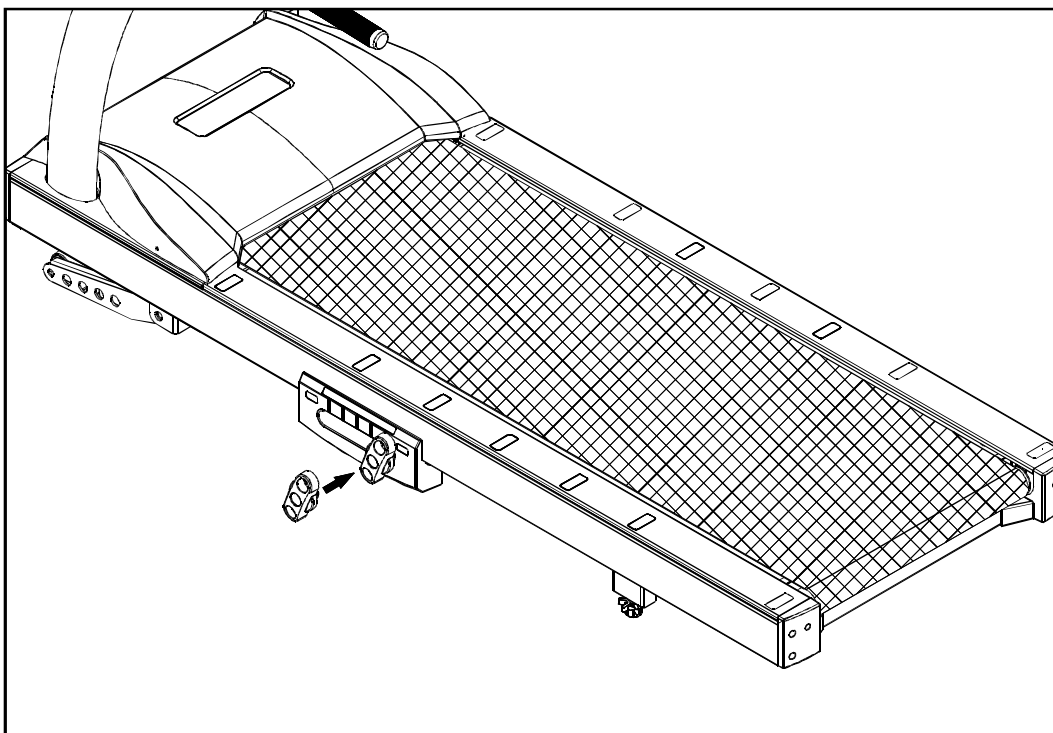

Fig.8
8. Insert the handle to the treadmill. (See Fig.8)